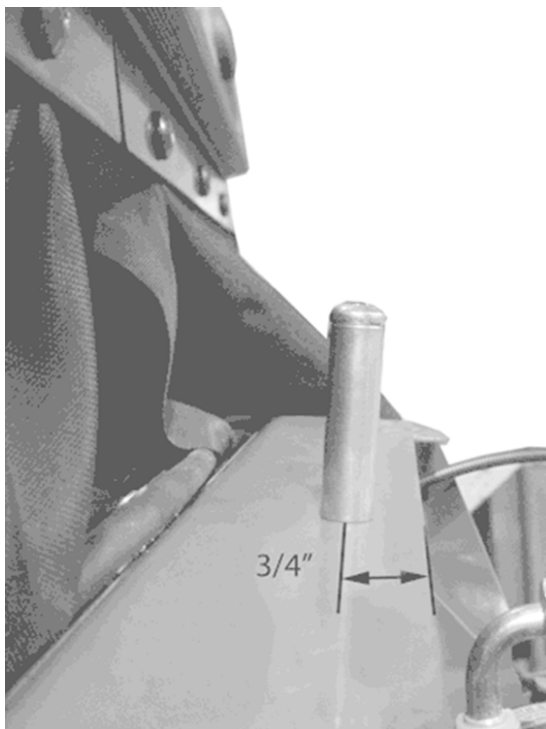

FIGURE 17
23. Drill a 5/16" hole at the location shown in **Figures 17 & 18**. Install the bungee cord guide (**Item 9**) onto the hood cowl using hardware: